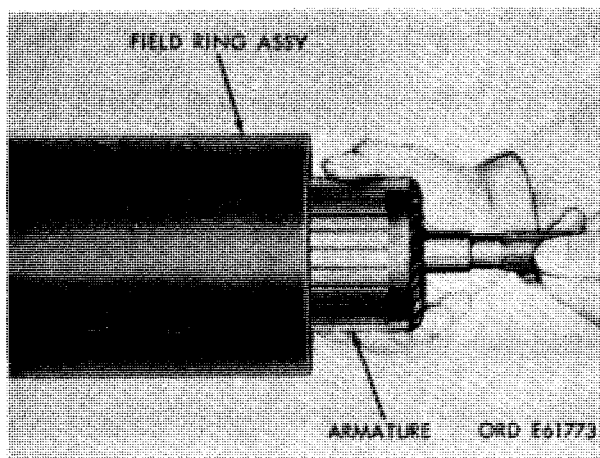
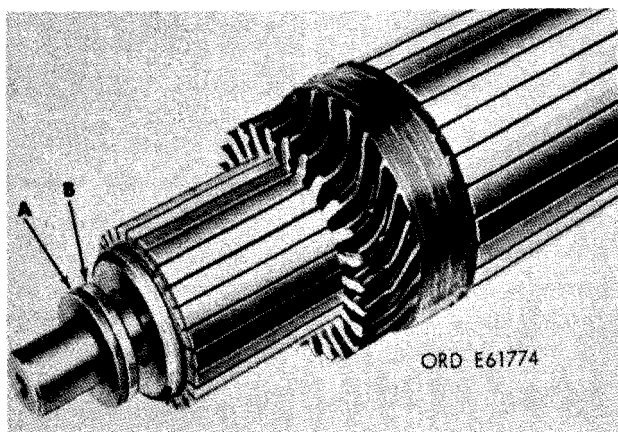

Figure 3-15. Removing or installing armature.
Figure 3-16. Removing or installing armature thrust washers.
Remove armature assembly from field ring assembly as shown in figure 3-15. Remove fiber thrust washer (A, fig. 3-16) and steel thrust washer (B) from armature.
The fit of thrust washer (B, fig. 3-16) can vary from a slip to a press fit. It may be necessary to press washer off armature shaft.